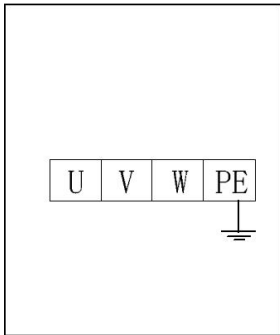

Fig. 10
- Connection of power line: Connect the 380V three-phase four-wire power line (cable of  $3 \times 2.5\text{MM}^2 + 1 \times 1.5\text{MM}^2$ ) to the control cabinet interfaces U, V, W and input terminal, and connect the PE grounding wire to the labeled grounding bolt firstly and then to the labeled grounding bolts at the bottom of the two platforms (Fig. 10, 11)